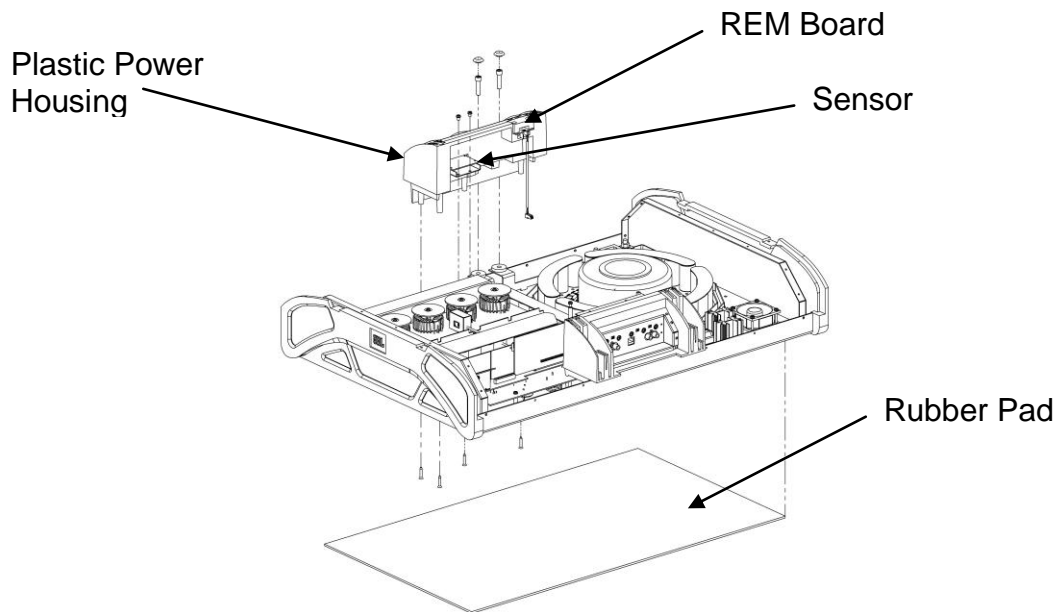

Figure 4.6 Power Connection Housing
9. Remove plastic power housing (see Figure 4.6).